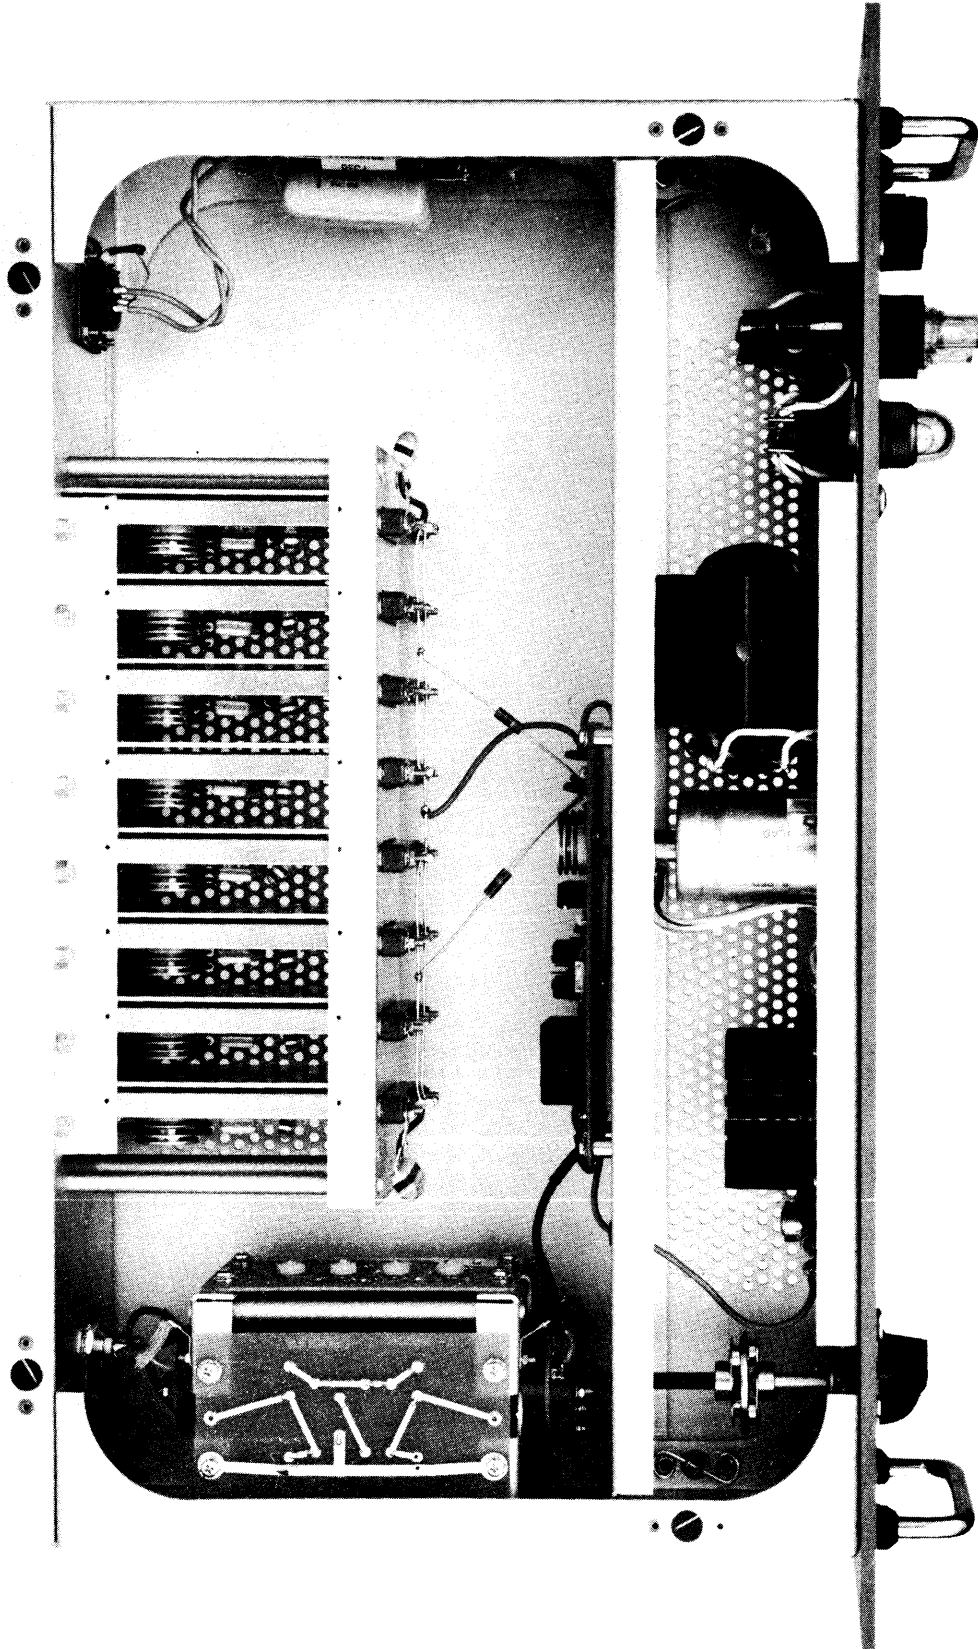

FIGURE 5-1 TOP VIEW WITH COVER REMOVED, AMC-21A
(2) For aid in locating components, refer to figures 5-1 to 5-5 inclusive.